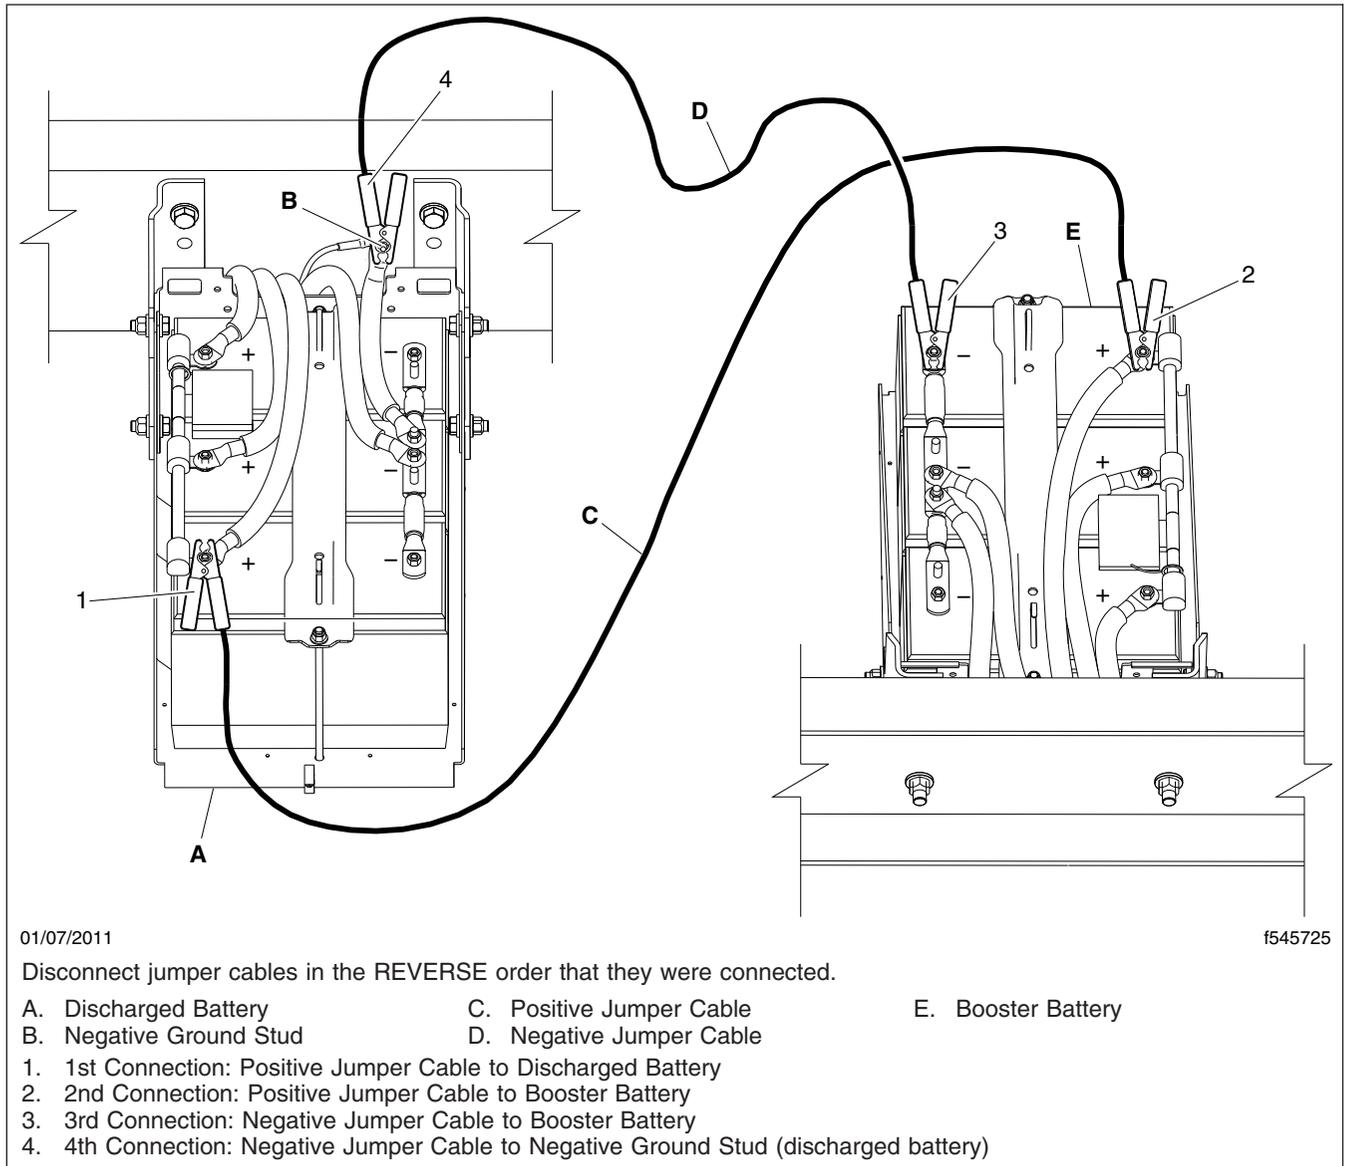

Fig. 12.1, Jumper Connections (three battery system shown for clarity)
3. Connect the positive (+) jumper cable to the positive terminal on the discharged battery. See Fig. 12.1.